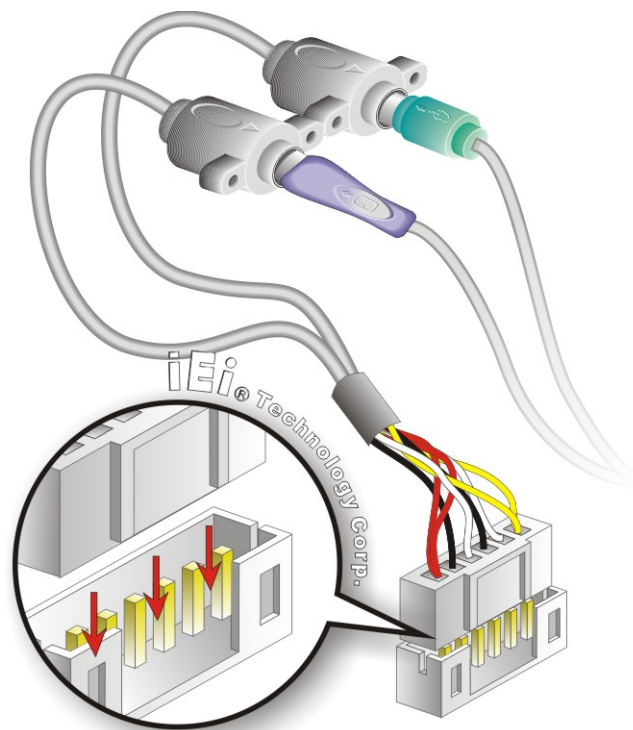

Figure 5-10: Keyboard/mouse Y-cable Connection
- Step 2:** **Align the connectors.** Correctly align pin 1 on the cable connector with pin 1 on the WAFER-LX3 keyboard/mouse connector. See **Figure 5-10**.
- Step 3:** **Insert the cable connectors** Once the cable connector is properly aligned with the keyboard/mouse connector on the WAFER-LX3, connect the cable connector to the onboard connectors. See **Figure 5-10**.